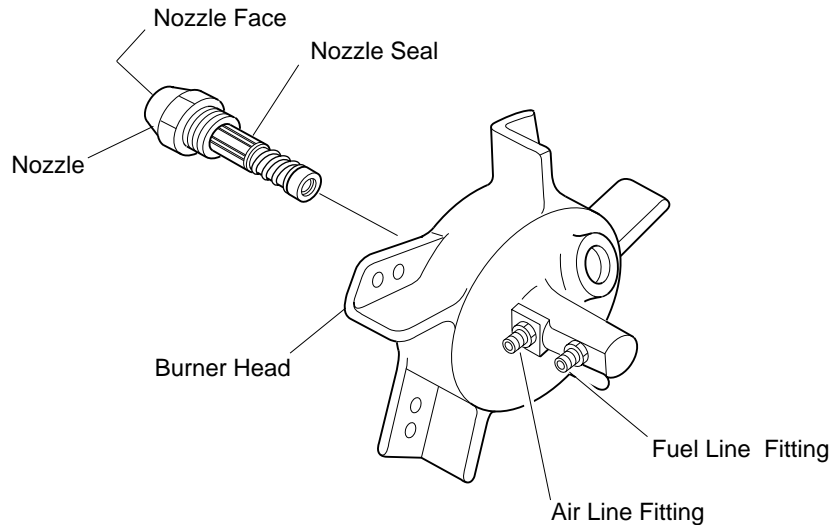

Figure 26 - Removing Nozzle, 70/100/150 Models
8. Carefully remove nozzle from burner head by using 5/8" socket wrench (see Figure 26).